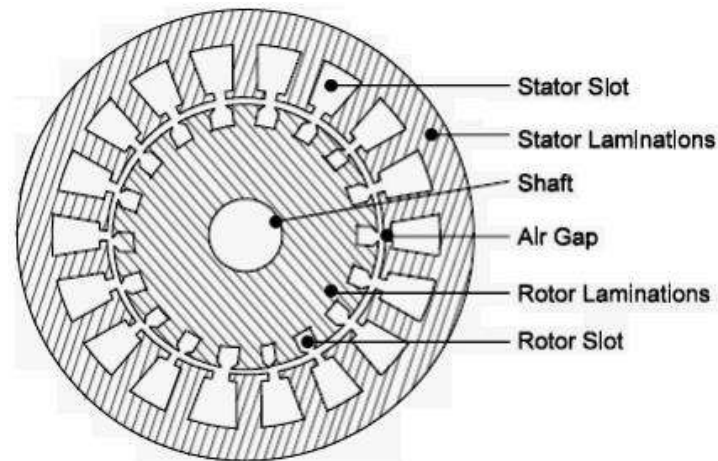

Figure.5.2. Construction of Alternator stator and rotor frame.
5.3.1. Stator Frame. The frame is used to house armature stampings and windings in position. Low speed large diameter alternators have frames which are cast in sections. Ventilation is maintained with the help of holes cast in the frame itself. Instead of castings, frames fabricated with mild-steel plates are welded together these days. The construction detail of an alternator stator frame is as shown in the figure 5.2.